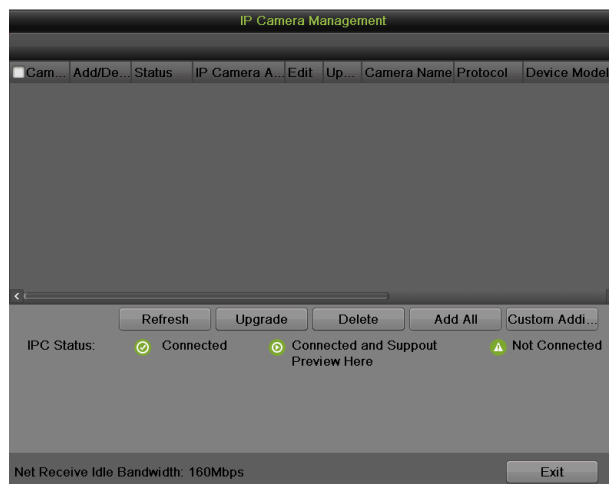

Figure 92 IP Camera Management Menu
2. Click Auto to automatically detect and add IP cameras. Or click Manual to manually manage the IP cameras, as shown in figure 92.